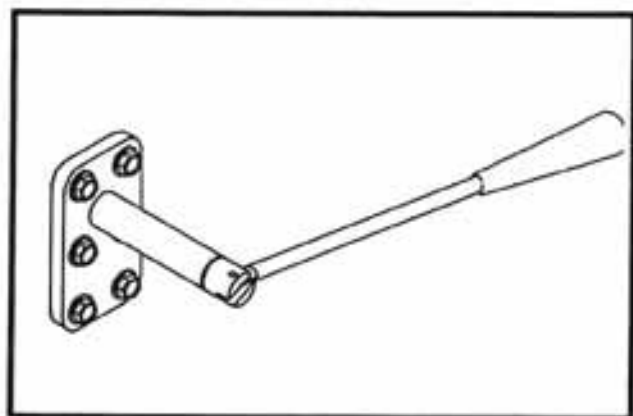

Figure 1-11
1. The GEROTOR type is the latest design and quickly discernible by placing a magnet against the steel cover plate (215) see Figure 1-11.
2. The CRESCENT type is the earlier design and has an aluminum cover plate (215) which will not attract a magnet.